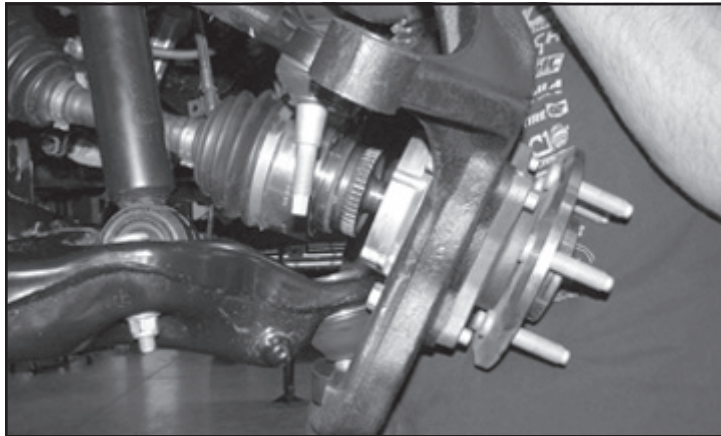

FIGURE 48 - STEP 48
48. Install the Fabtech knuckle onto the upper and lower control arms. Torque the upper ball joint to 85 ft-lbs and the lower ball joint to 110 ft-lbs. **SEE FIGURE 48**